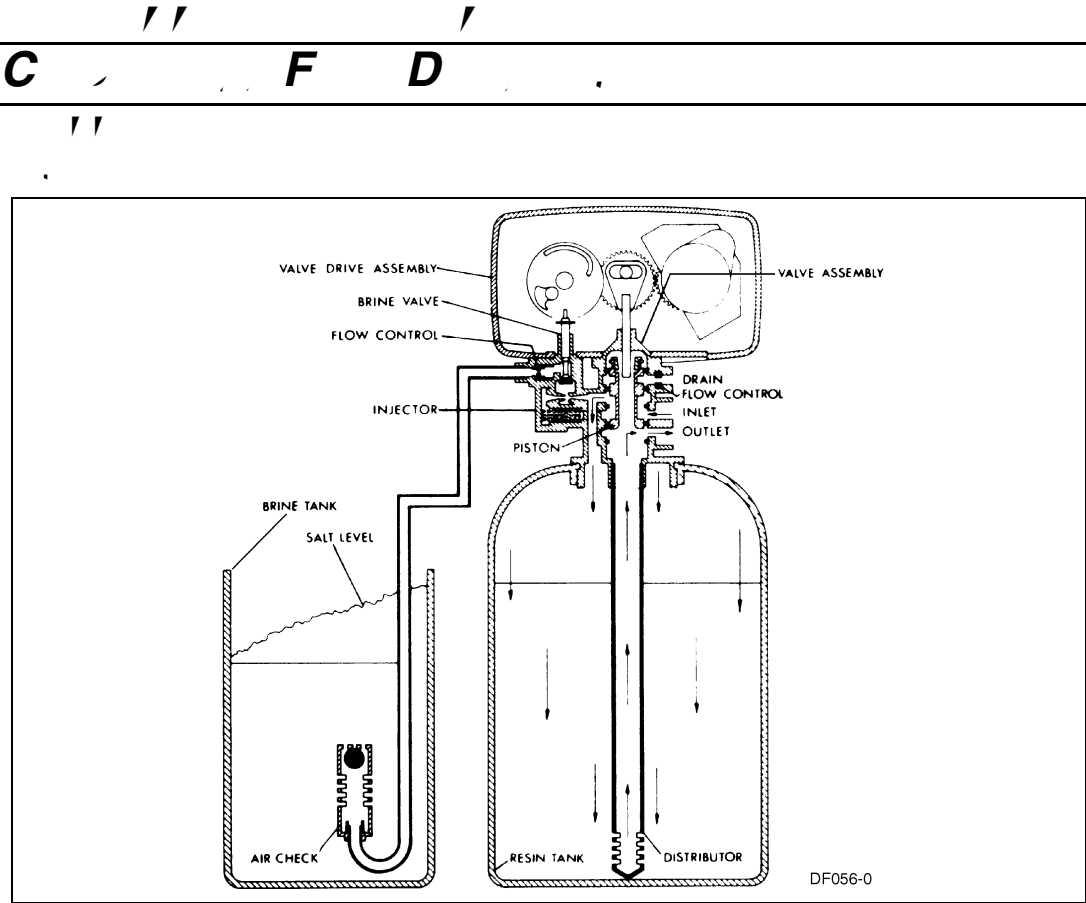

Figure 4: Service Position
1. **I** position. See *Figure 4, page 10*.
- Same as *Figure 4, page 10* with standard piston (white end plug) or filter piston (black end plug).